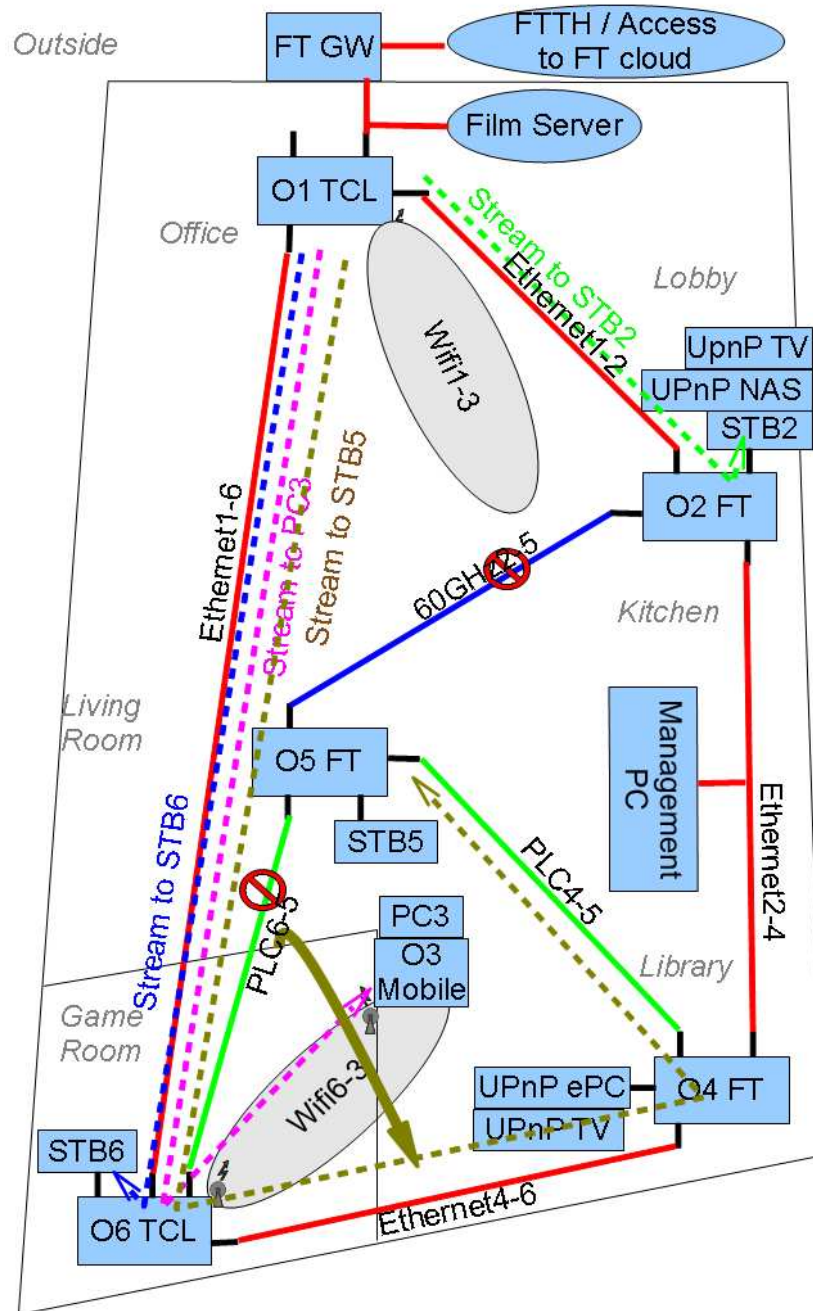

Figure 5: Handover on PLC
- When unplugging PLC6-5, stream can be redirected over 60GHz2-5 if available, or over the second PLC, as shown in Figure 5.